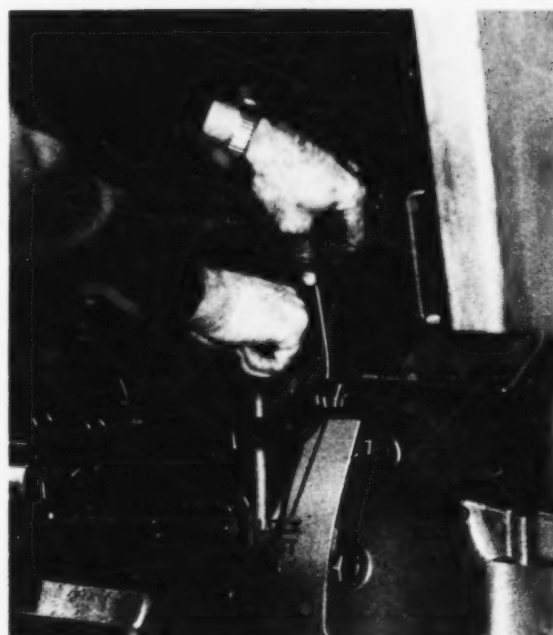

Fig. 23—Bleeding Power Brakes
- nut on both sides of the machine at the drive axle housing (Fig. 23), or follow instructions in your operator's manual.